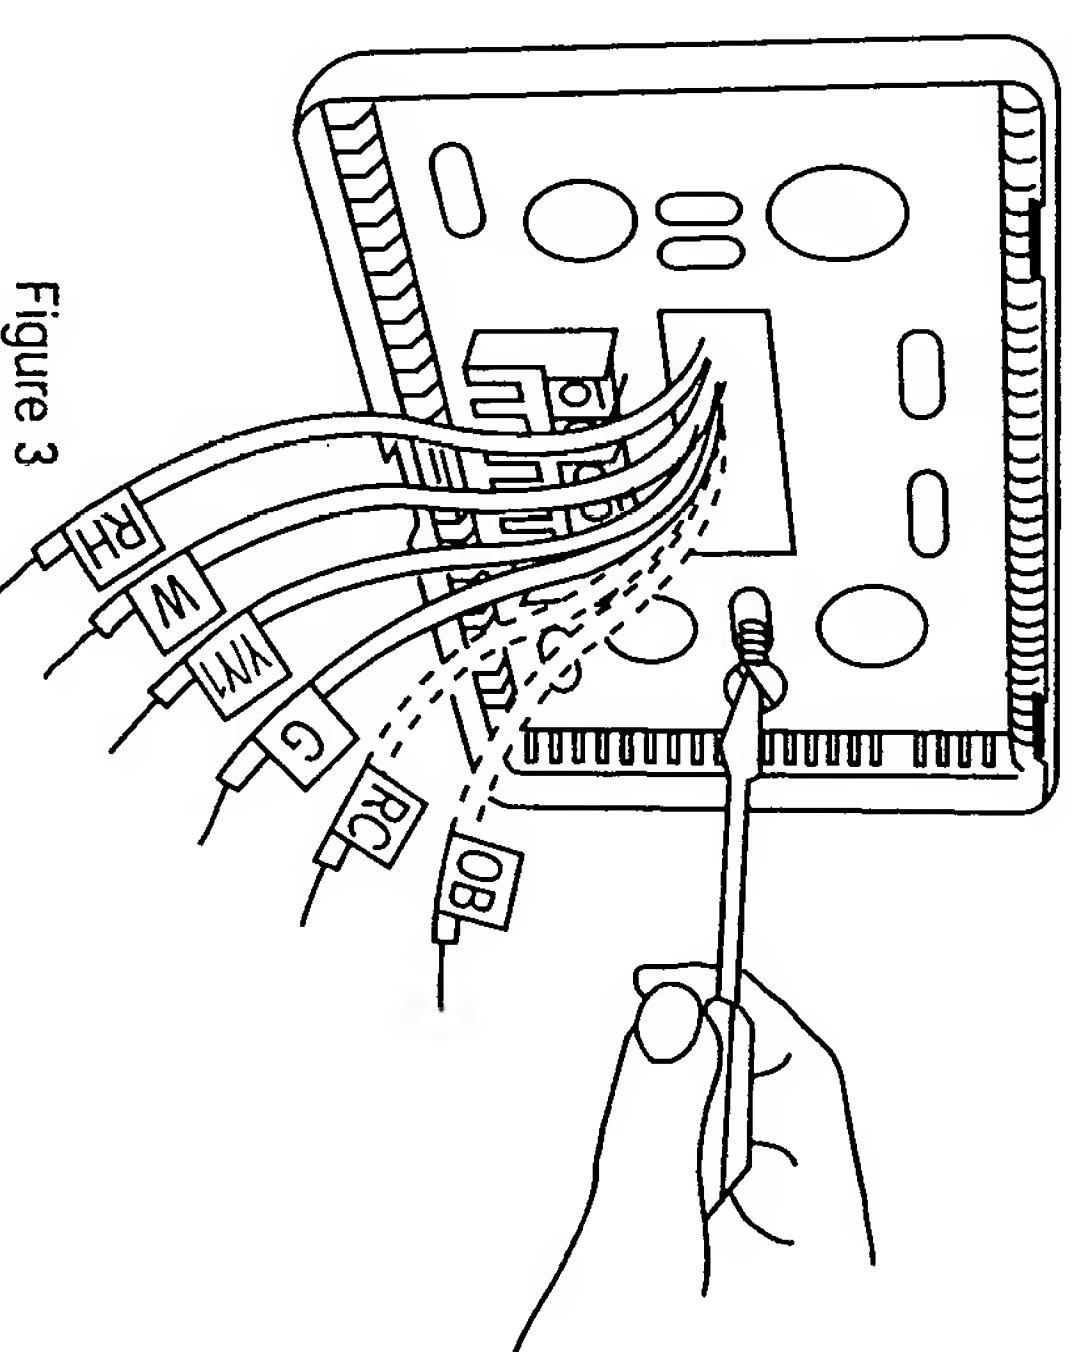

Figure 3
- Reposition wallplate to wall, pulling wires through large opening. Insert mounting screws provided into wall anchor and tighten. (See Figure 3.)